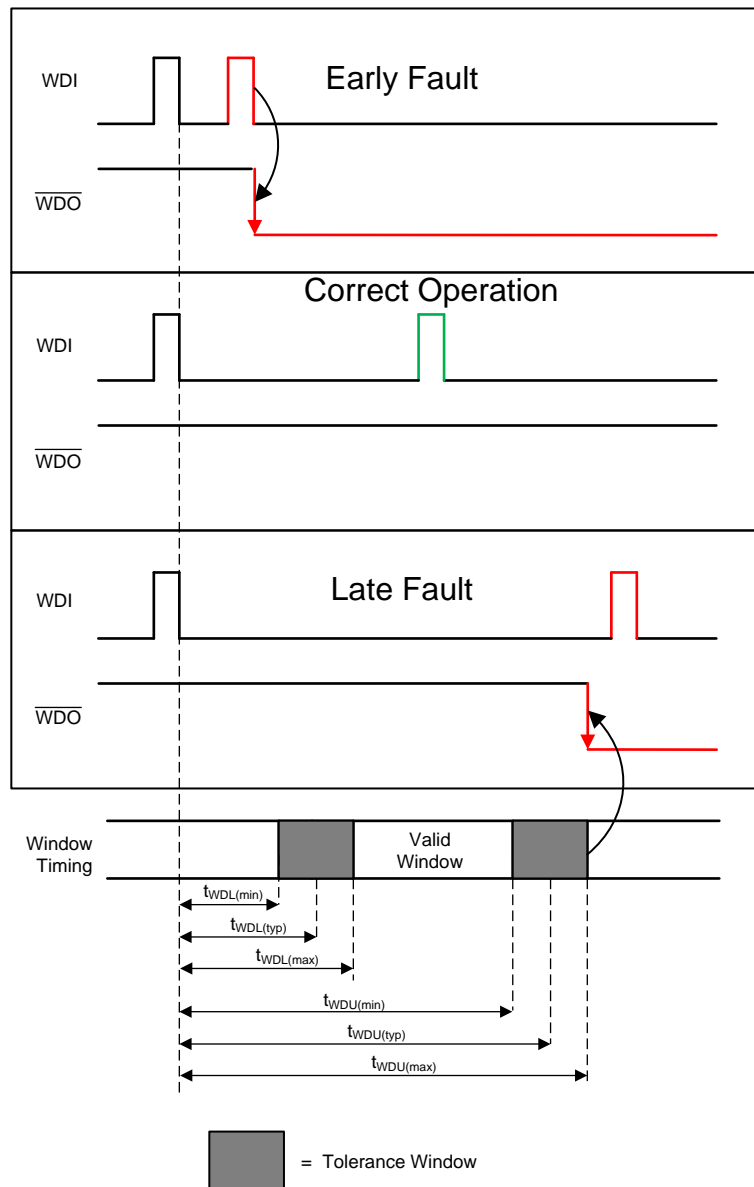

图 2. TPS3850 Window Watchdog Timing
(1) See Figure 2 for WDI timing requirements.